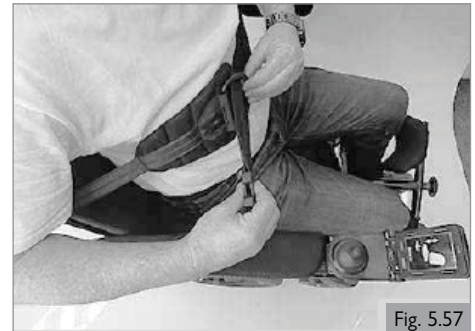

Fig. 5.57
3. Pull the chest strap so that it fully supports the user's upper body firmly and comfortably. (Fig. 5.57)